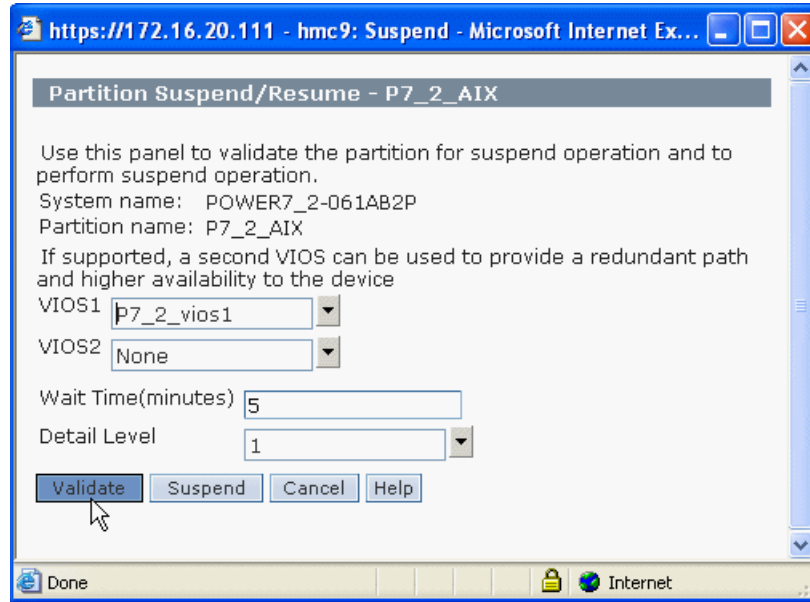

Figure 17-28 Validating suspend operation
2. Verify, and modify if necessary, the information provided in the **Partition Suspend/Resume** window, as shown in Figure 17-28, then click **Validate**.